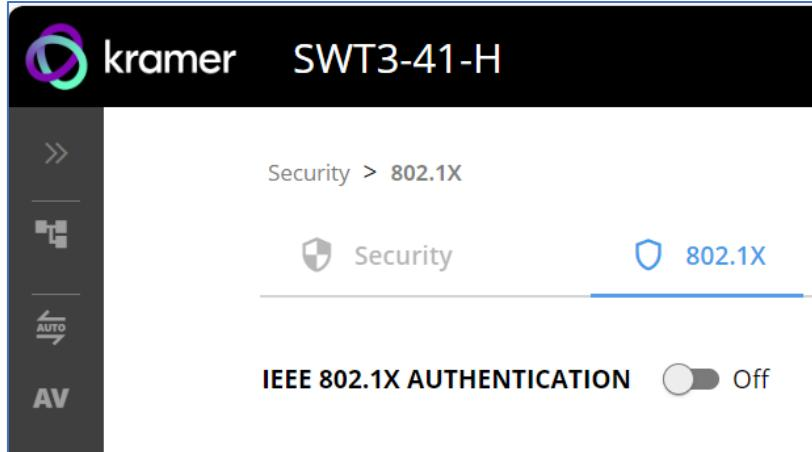

Figure 40: 802.1X Tab
2. Select **802.1X** tab. The 802.1X settings tab appears (see (Figure 40)).